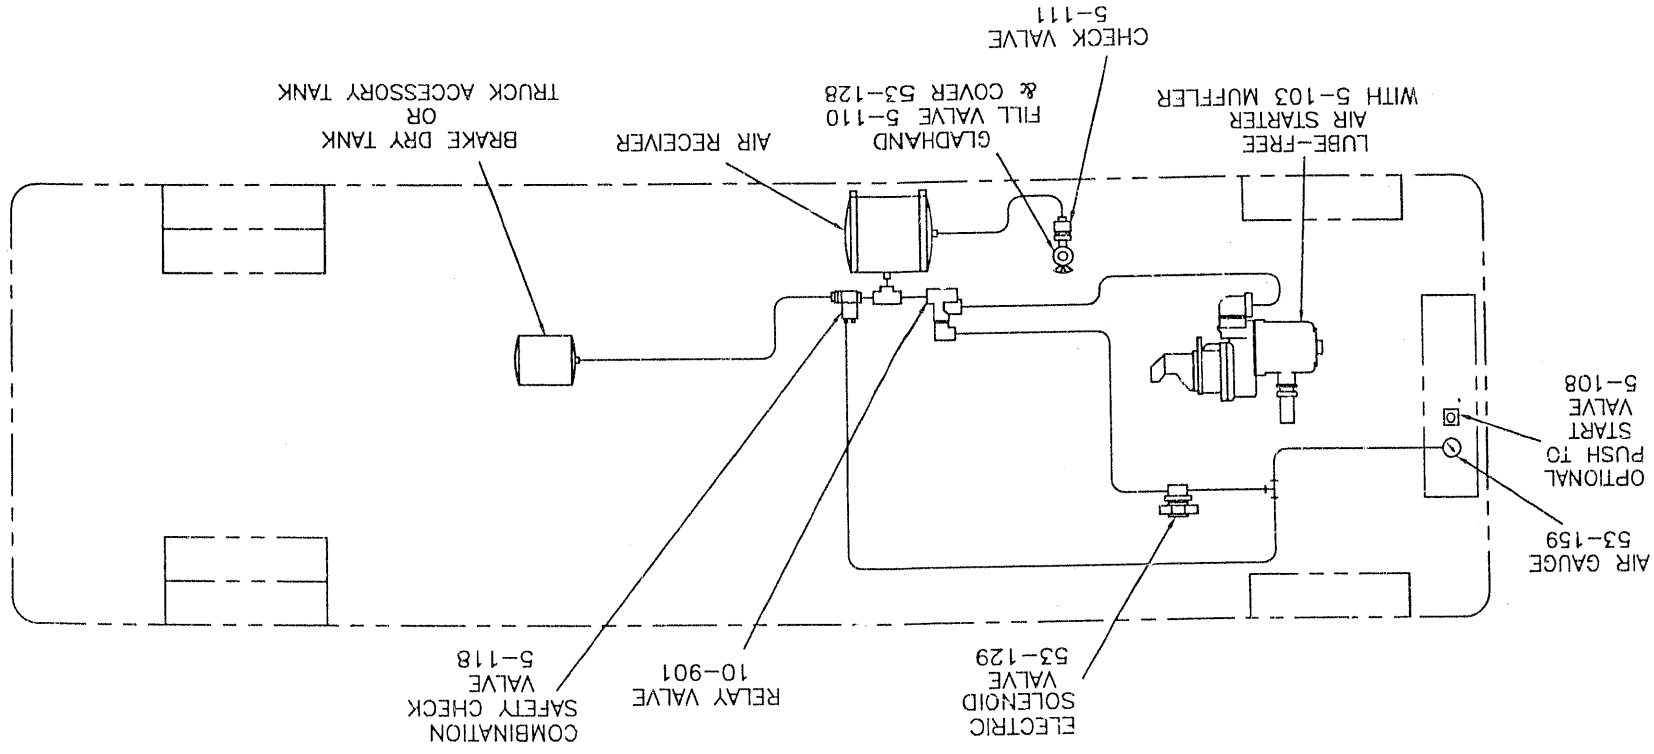

FIGURE 4. TYPICAL TRUCK AIR STARTING SYSTEM
3. Insert the vanes (#12) into the rotor slots on the rotor assembly (#5) as shown in Figure 4.
6. Install new vanes (#12) into the slots on the rotor assembly (#5). Refer to Figure 4. Make sure bearing assembly (#6) is packed with bearing grease.